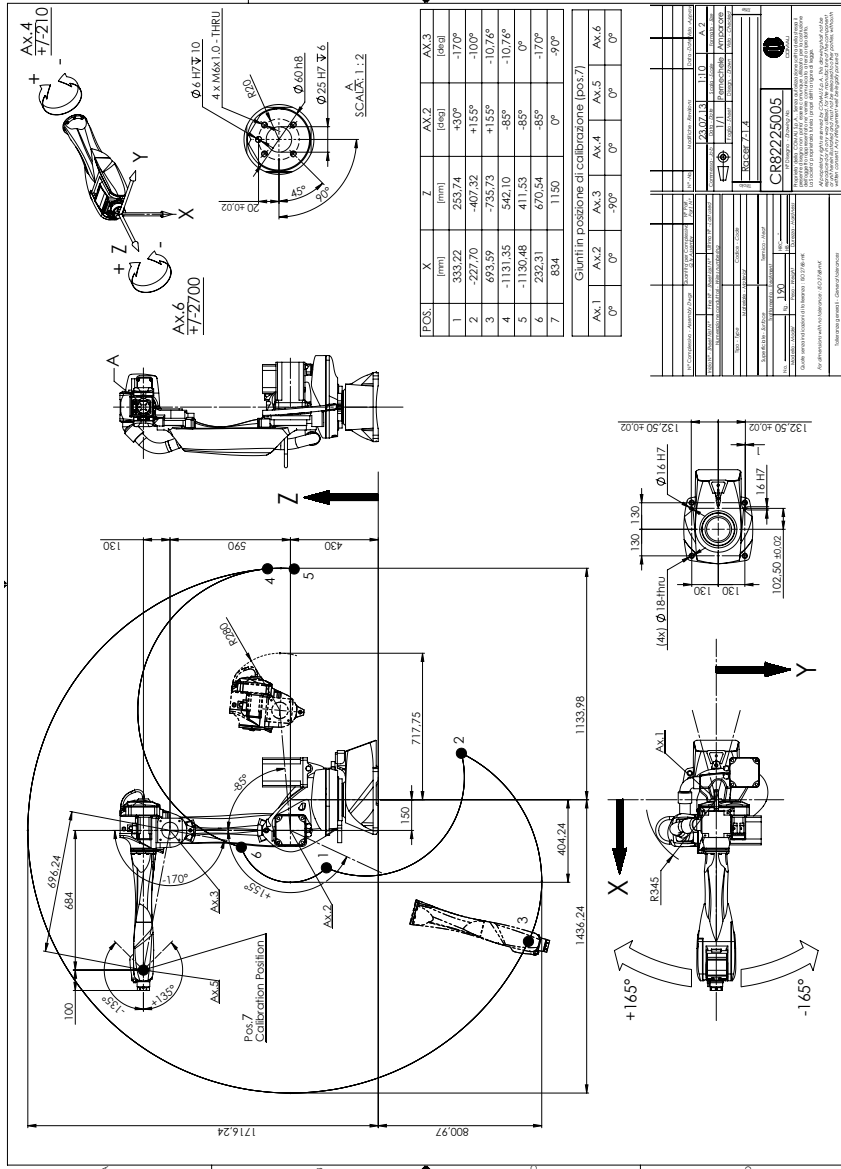

Figure 2: The workspace of the COMAU RACER 7-1.4, with the data associated to the wrist center positions (labeled from 1 to 7)
Figure 2 (in the following page) shows a more detailed drawing of the robot workspace, with all relevant metric data (in mm or deg). For seven different Cartesian positions of the center W of the spherical wrist, a table reports the numerical values of the absolute coordinates X and Z of the point W and of the joint variables of axes 1 and 2. For the calibration position #7, the values of the complete joint configuration vector are reported.
- Assign the robot frames according to the *Denavit-Hartenberg convention* and define the numerical values in the associated table of DH parameters. On the provided extra sheet (a replica of Fig. 2), draw clearly the DH frames, put your name, and return the sheet with the rest of your solution.